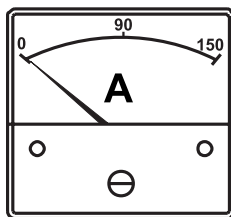

Figure 52. Ammeter (No Load)
8. The **ammeter** (Figure 52) will indicate **zero amps** with no load applied. When a load is applied, the ammeter will indicate the amount of current that the load is drawing from the generator.